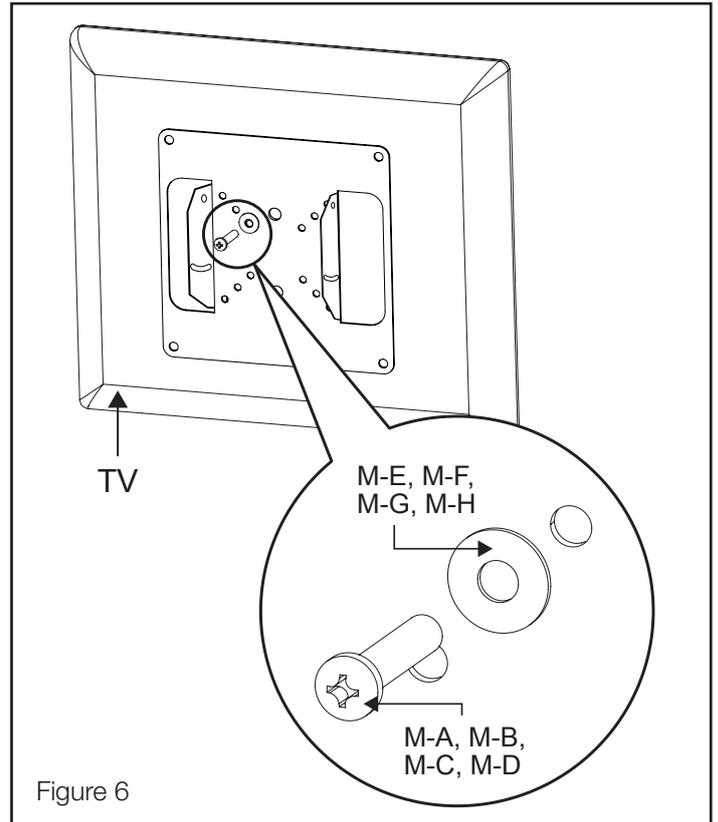

Figure 6
5. Using the correct mounting bolt size and length, insert through the corresponding washers (M-E to M-H) to attach TV Wall Mount to rear of TV (see Figure 6). To avoid damaging TV, do not overtighten bolts.